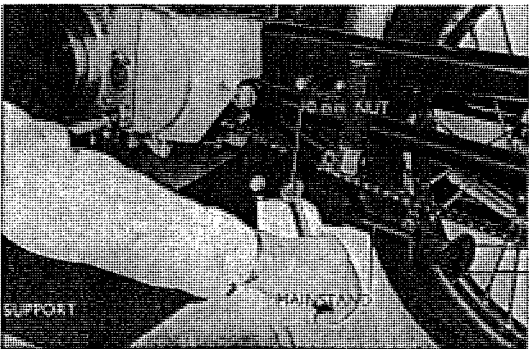

Fig. 4.47 Removing stand
5. Place a bench under the engine and loosen the 10 mm hex nut ; remove the stand mounting bolt and the stand. (Refer to Fig. 4.47)